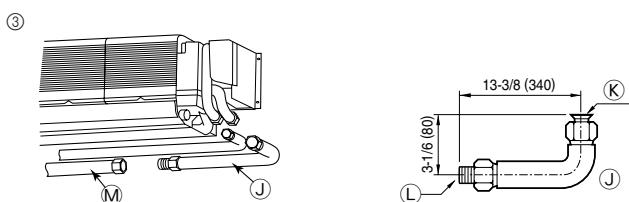

Fig. 4-7
③ L-shaped connection pipe (for gas piping) (Fig. 4-7)
- (J) L-shaped connection pipe (optional parts)
- (K) Unit side
- (L) On-site piping side
- (M) Piping (purchased locally)